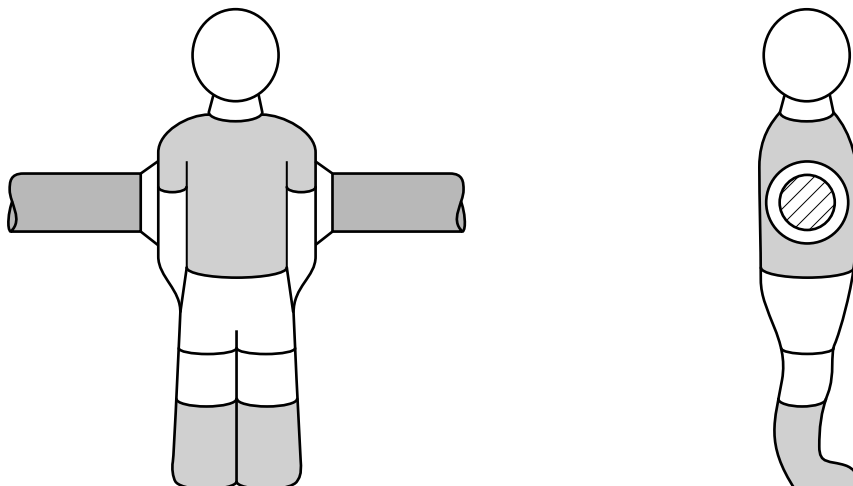

Fig. 12
- (c) (i) Fig. 12 shows one of the players and the metal rod to which it is attached. The players are made from injection moulded plastic. Add sketches and notes to Fig. 12 to show how the player could be fixed to the metal rod without the use of adhesive.